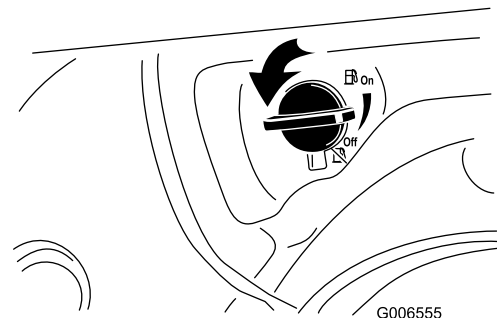

Figure 28
2. Turn the fuel shutoff valve 1/4 turn counterclockwise to open it (Figure 28).